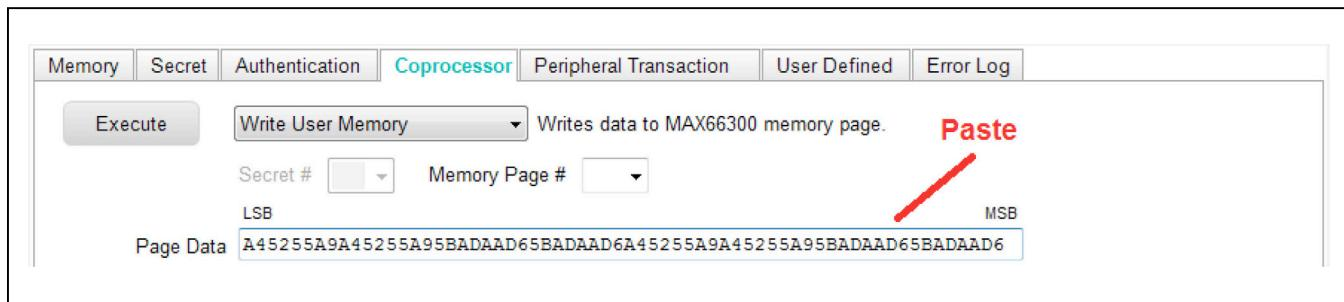

Figure 21. Paste Page Data
- 17) Paste the clipboard contents into the **Page Data** field using the Ctrl+V keys (Figure 21)